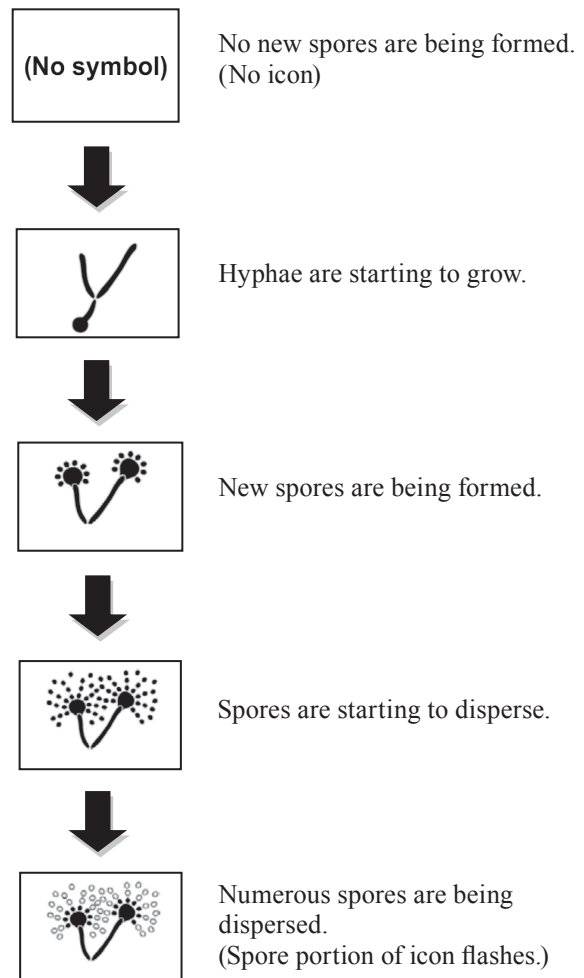

Fig. 2. Fungal growth prediction display.
2) *Fungal growth prediction*: A momentary increase in the fungal index does not mean that fungal contamination will start immediately. Because fungus grows only once a suitable environment has persisted for a certain amount of time, fungal contamination can be predicted using the cumulative total of a series of fungal index values. The LR8520 calculates this value as a fungal growth prediction that takes the form of the five progressive icons depicted in Fig. 2.
In addition, the instrument calculates a cumulative value for the fungal index and indicates the predicted fungal growth using a five-stage display. Fig. 2 summarizes this fungal growth prediction display.